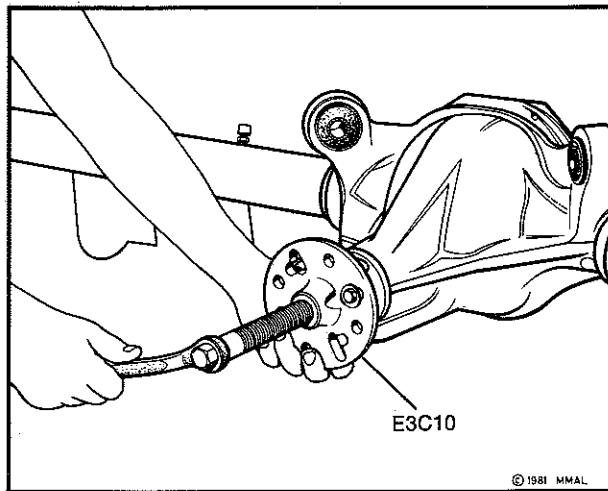

Fig. 18—Removing pinion flange
(8) Remove pinion nut and remove pinion flange with tool E3C10, refer Fig 18.